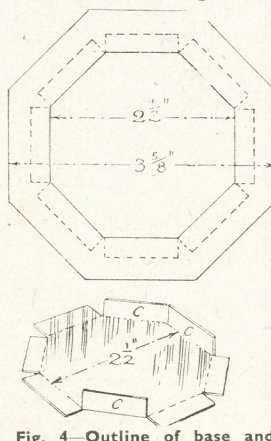

Fig. 4—Outline of base and tray
The upper layer of the base, as (B) in Fig. 3, is set out in a similar manner to (A), being the main piece below. The outline of piece (B) is given in Fig. 4 in the solid lines, and this again is set out on $\frac{1}{2}$ in. wood and cut out. Glue the two pieces together and clamp up.
Being of wood, some protection must be given against the hot ash, and to this end a neat little metal tray is formed from brass or copper or even tin which could be painted or japanned over. The tray consists of an octagonal piece of metal set out 3ins. square. It has an inner shaped piece for sinking in the depth of the wood overlay, marked out $2\frac{1}{2}$ ins., as seen in the lower diagram in Fig. 4.
The metal can be cut with a pair of tinman's snips or an old pair of scissors. Snip out the V-shaped pieces of the metal so that when each of the eight sides is angled up and soldered the appearance is as (C) in Fig. 4, three only of the upturned sides being shown here, the others lying flat and made ready for